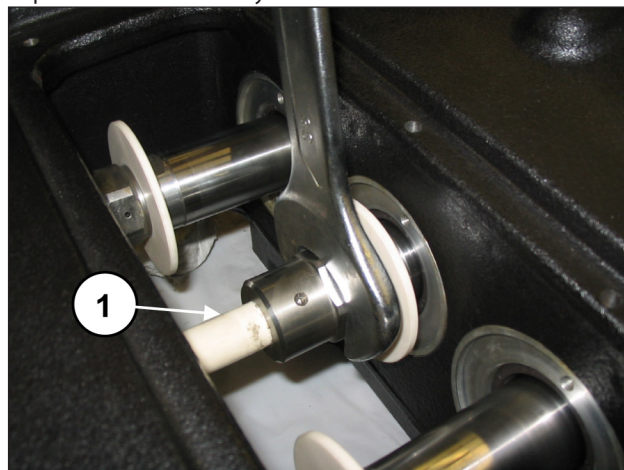
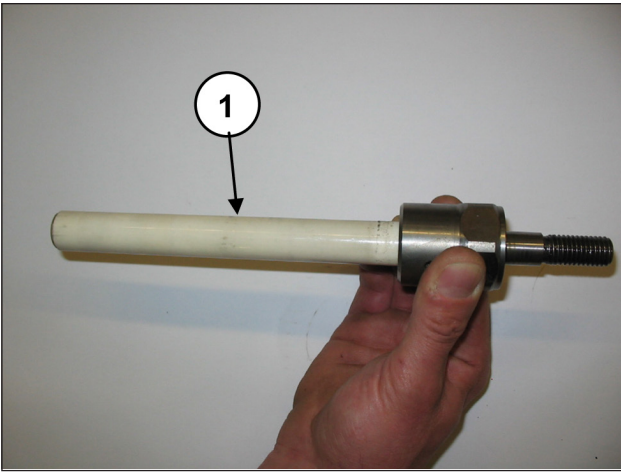

Fig. 122
Fig. 123
Remove the pumping elements with a fork spanner (pos. ①, Fig. 122) and check their state of wear (pos. ①, Fig. 123). Replace them if necessary.